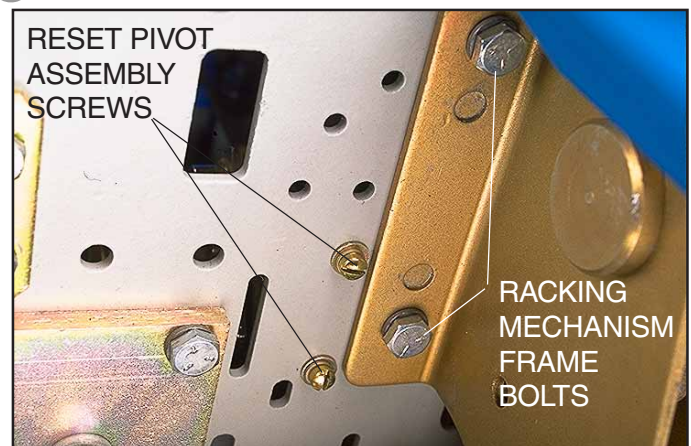

Fig. 30 Reset Pivot Assembly Screw Locations.
- D. Remove and scrap the original hardware securing the left side Racking Mechanism Frame to the bottom of the Breaker Shelf. (See Fig. 30 for bolt location.)